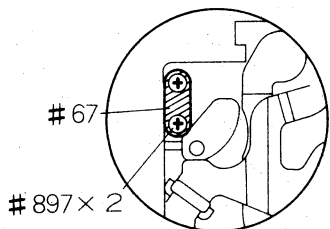

fig. 4-2
- ② can be adjusted by re-locating #67. (fig. 4-2)
- ③ can be adjusted by replacing GII or Mirror holder FA3-53.